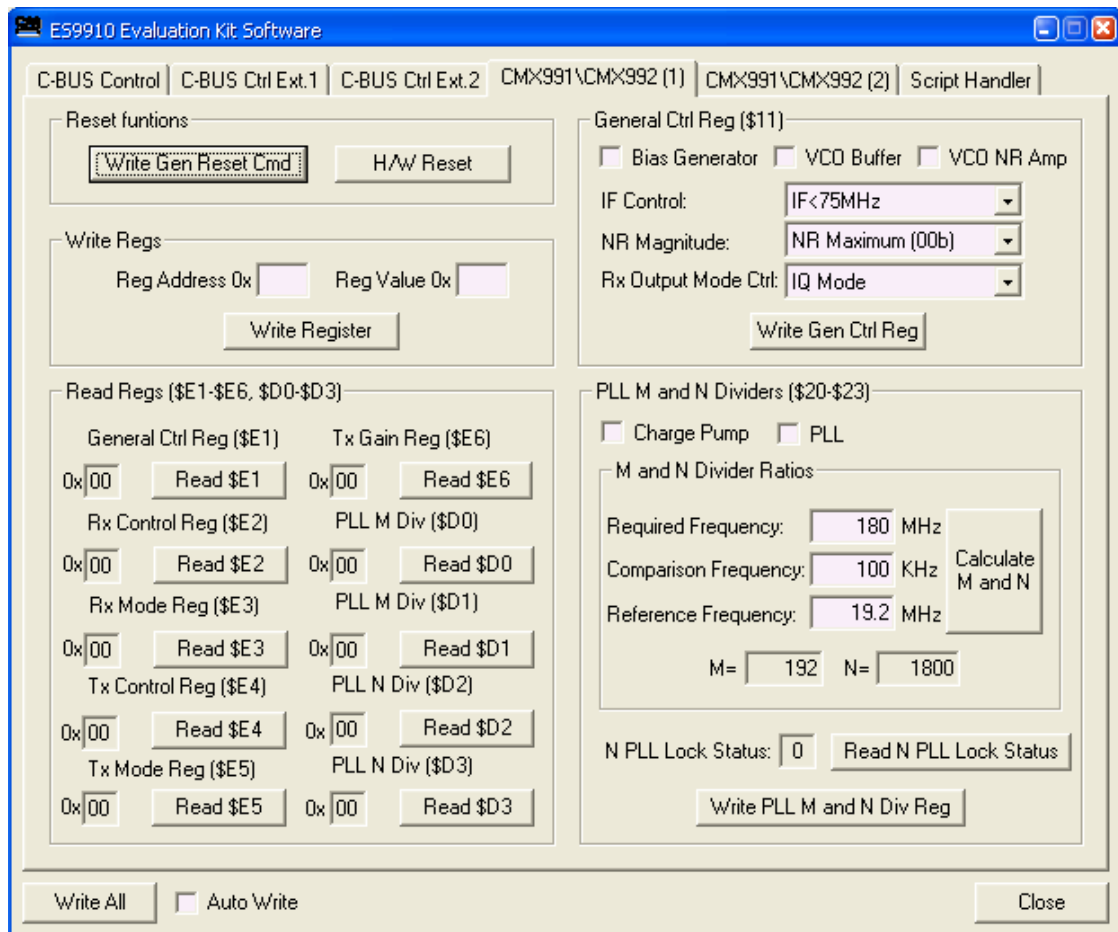

Figure 11 – The 'CMX991\CMX992 (1)' Tab
6.3.2. The 'CMX991\CMX992 (1)' Tab
The CMX991\CMX992 (1) tab provides access (via J5 only) to the general control (\$11) and PLL control (\$20 - \$23) registers, a general purpose read/write facility for any register address and access to all of the CMX991 (CMX992) read-back registers, see Figure 11. Note that the general control register is written to as (\$11), but read back as (\$E1): likewise for other registers.
The PLL function automatically calculates the desired divider ratios for a given frequency requirement. The selected frequency must take into account the dividers in the LO chain. The required comparison and reference frequencies should be entered in the appropriate windows. Then the user should click 'Calculate M and N' button and the appropriate values will appear in the boxes below the entry window. Click on 'Write PLL M and N Div Reg' and the values will be programmed into the CMX991 (CMX992). The PLL default conditions are shown in Figure 11.